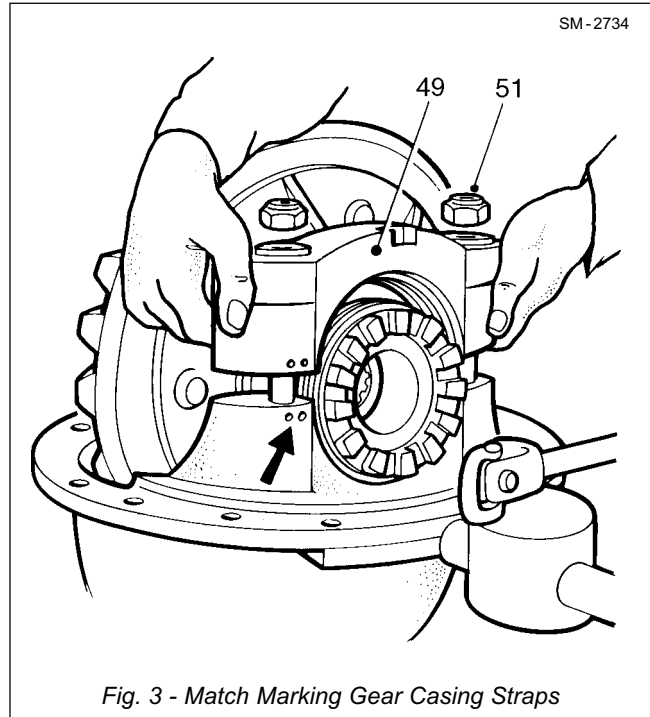
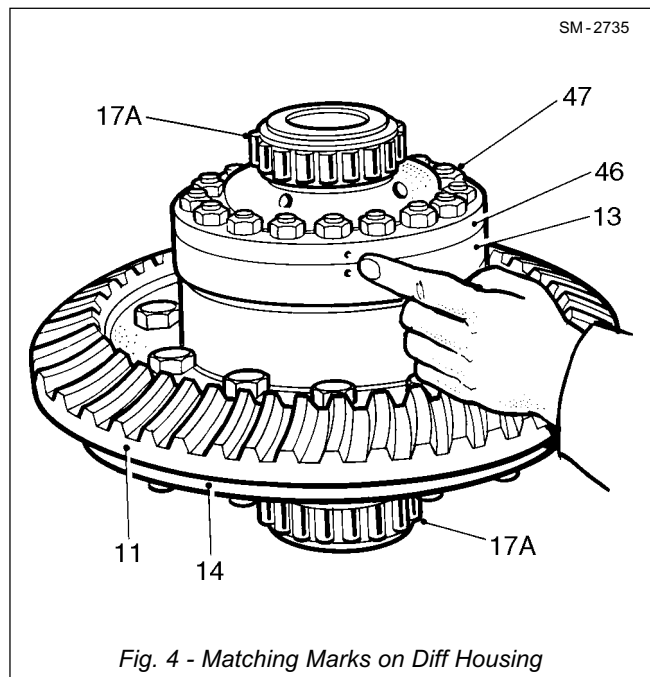

Fig. 3 - Match Marking Gear Casing Straps
Fig. 4 - Matching Marks on Diff Housing
2. Match mark straps (49) as shown in Fig. 3 to ensure correct rebuild position then remove nuts (51) and washers (50).
3. Lift off two straps (49) and diff bearing adjusting nuts (16).
4. Remove and discard bearing adjusting nut split pins (48) from diff straps (49).
5. Lift complete differential and crownwheel assembly from gear casing (40). Place assembly on bench with crownwheel (11) teeth uppermost.
6. Check end flanges (14 & 46) and differential housing body (13) for identification and matching marks (See Fig. 4). If unmarked, centre punch the parts to ensure correct mating on assembly.
7. Remove nuts (47) from studs (12) which fasten upper end flange (46) to differential housing body (13).
8. Lift off end flange (46) and thrust washer (15).